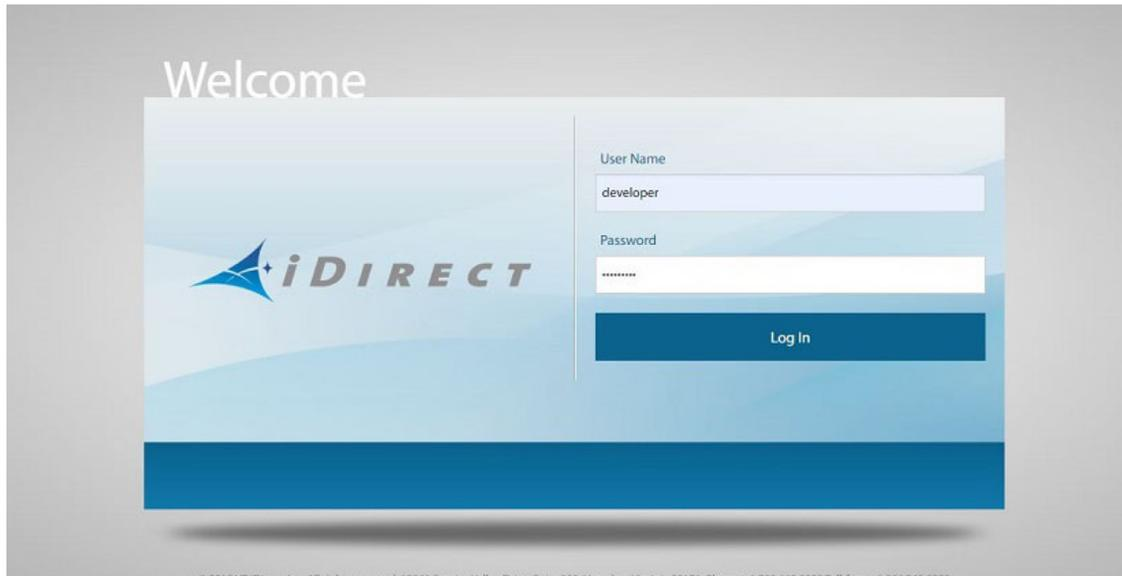

Figure B-1. Login Page Showing Username as "developer"
1. Using a Web browser, connect to the satellite router to be locked and log on as *developer*. See Figure B-1.
1. Using a Web browser, connect to the satellite router to lock and log on as *developer*. See Figure B-1.
1. In a Web browser, connect to the satellite router to be locked and log on as *developer* at the Terminal WUI. See Figure B-1.